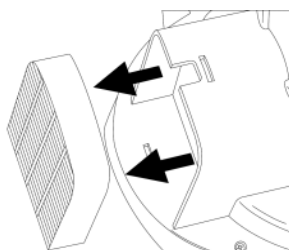

FIGURE 12
- 3) Gently press in on bottom of ULTRA filter to push the top outwards. Grasp top of filter and pull it outwards to remove it from its housing (FIGURE 12).